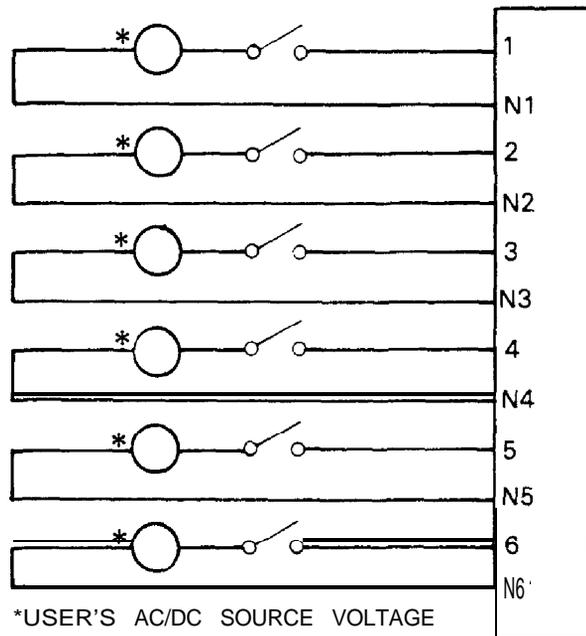

FIGURE 3. TYPICAL USER INPUT CONNECTIONS
- ① Terminal Cover
- ② User Terminal Block: Accepts connections from user input devices, See the "Installation" section and Figure 3 of this Data Sheet.
- ③ Circuit Board Terminal Block: Mates with the user terminal block.
- ④ Input Lights: 1 through 6
4. Refer to Figure 3. Connect one side of the user circuit to the appropriate input terminal (1 through 6). Connect the other side of each user circuit to the appropriate neutral terminal (N1 through N6). Each input terminal can accommodate one No. 12 AWG wire or two No. 14 AWG wires.